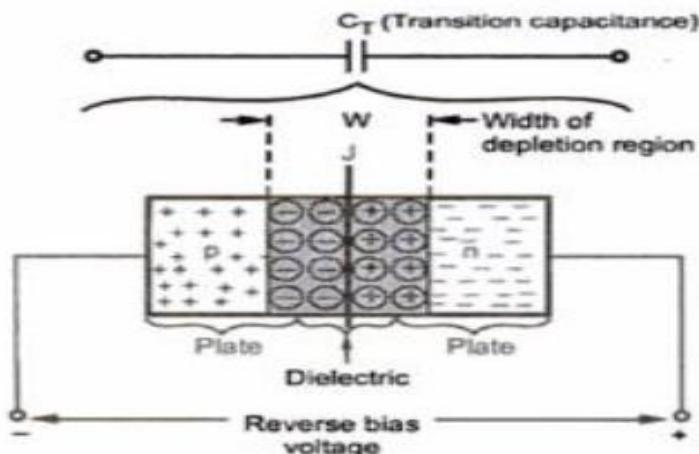

Fig. 5.12 Varactor diode
- It is denoted as  $C_T$  and is shown in figure 5.12.